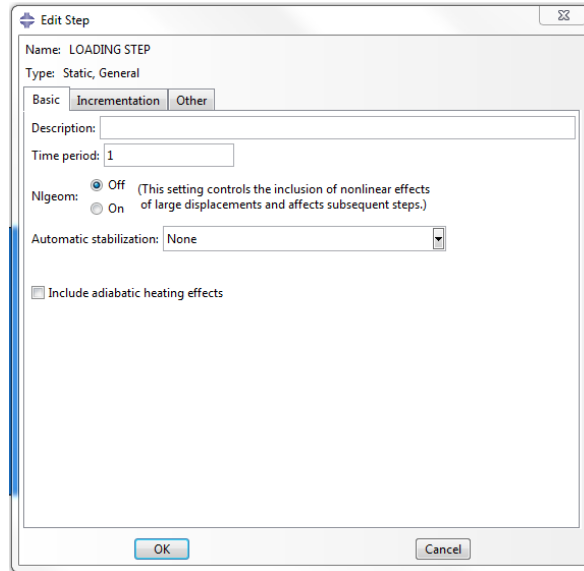

Figure 26. Edit Step Dialog Box
- Click **Continue...**, and the **Edit Step** dialog box will immediately appear (Figure 26).